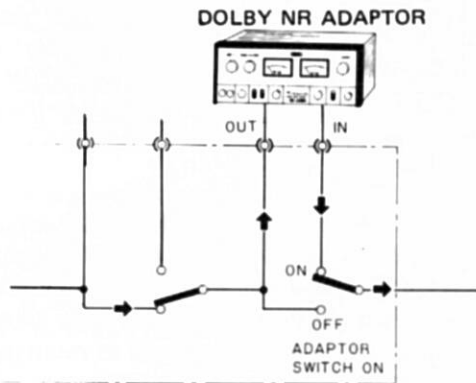

Fig. 17
2. Connect the Dolby adaptor as shown in Fig. 17. to the ADAPTOR IN and OUT jacks.